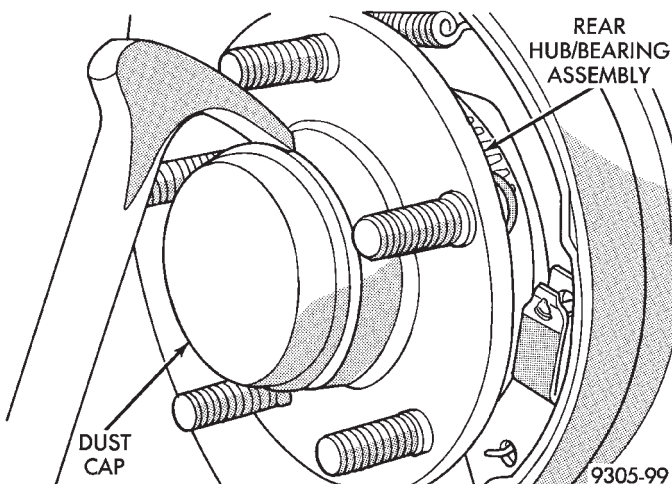

Fig. 4 Rear Hub And Bearing Dust Cap Removal
(1) Remove rear hub and bearing assembly dust cap (Fig 4). Then remove cotter pin and nut lock from spindle.